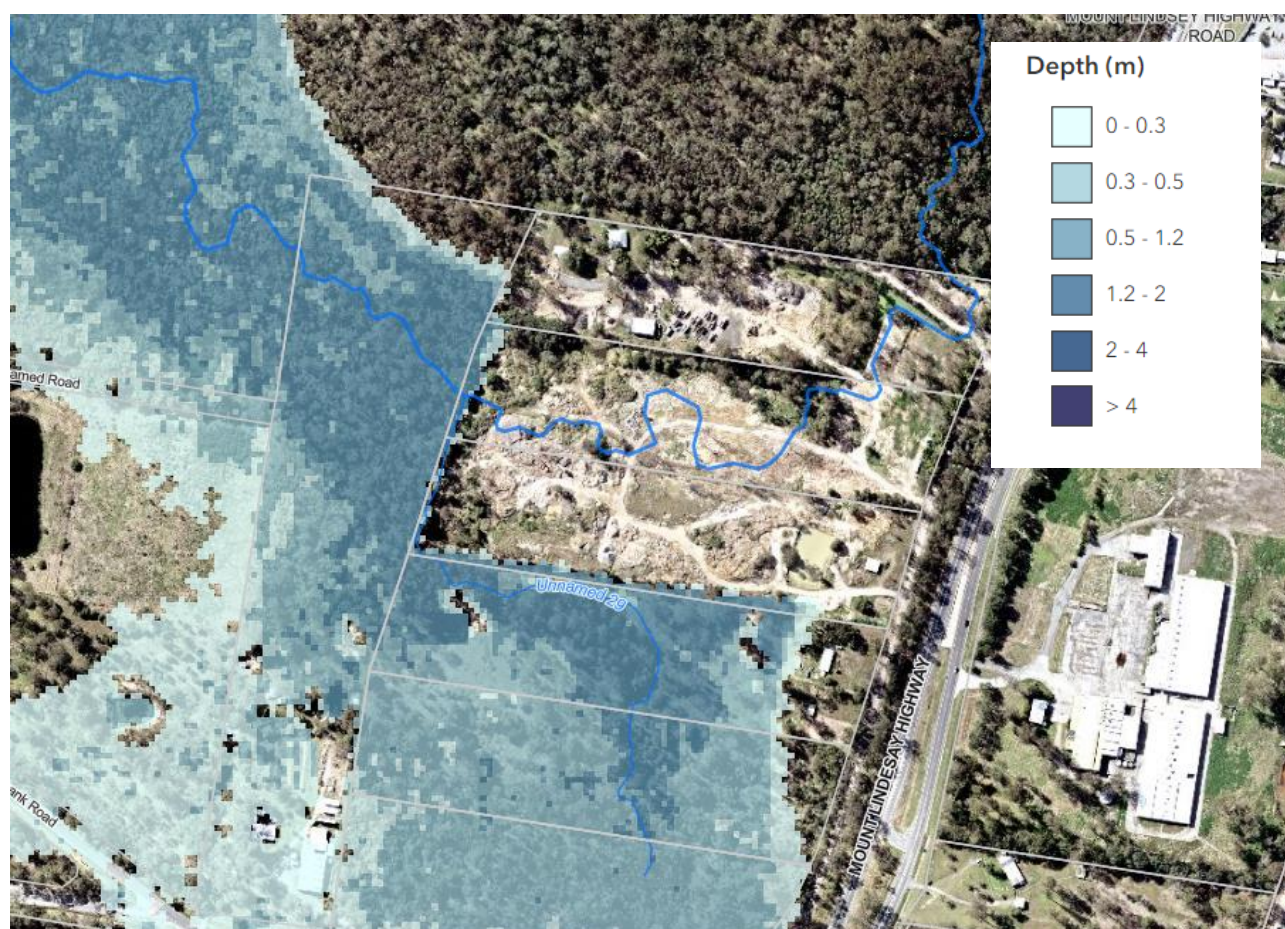

Figure 6.1 2100 1% AEP Flood Depth Mapping (LCC, 2023)
The latest mapping on Logan's Flood Portal indicates that three (3) of the four (4) lots (Lots 3 RP137101, 4 RP137101, 5 RP137101) are currently filled above the 2100 1% AEP Flood level. A screen shot of the flood extent has been provided in Figure 6.1 below.